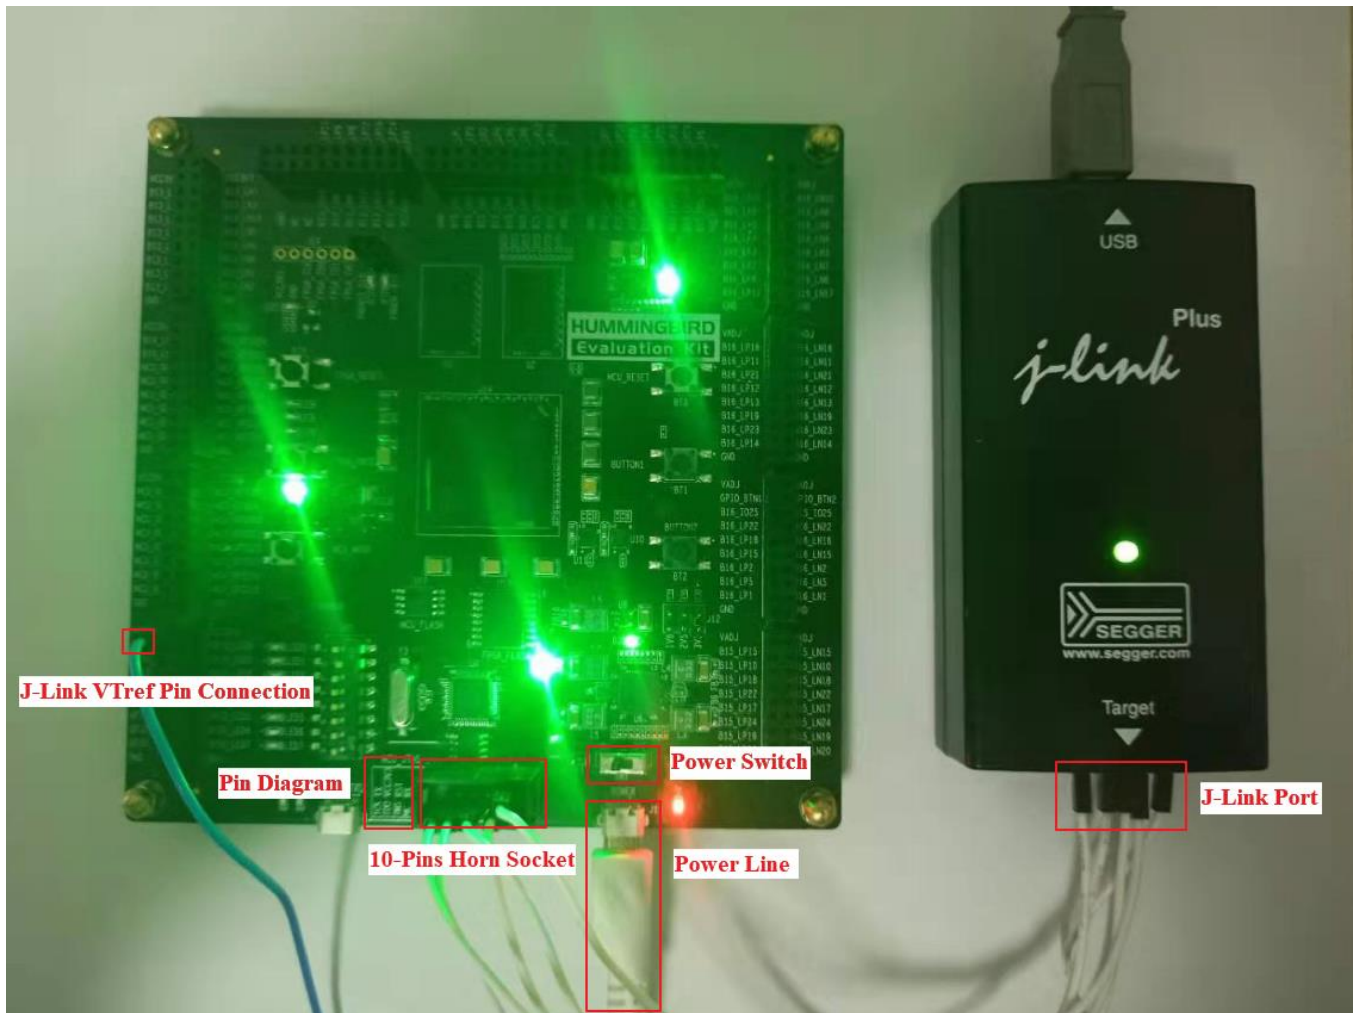

Figure 4-6 Hardware Connection of J-LINK
- The pin diagram of Hummingbird Evaluation Kit FPGA board is next to the 10-Pins Horn Socket as shown in Figure 4-6.
- The hardware connection of J-Link is as shown in Figure 4-6. If the connection is correct, turn on the power switch.